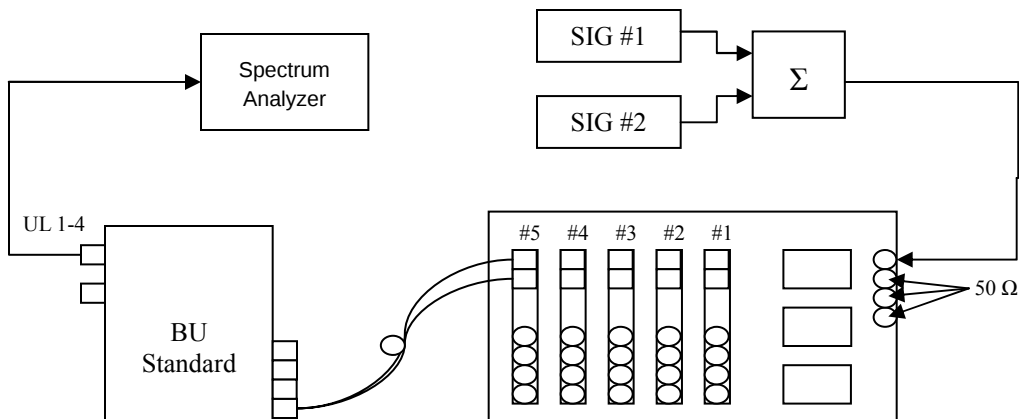

Figure 7.1 UL IIP3 Setup
- 7.2. Connect Spectrum Analyzer to the UL BU port, BU to the relevant RHU in the cabinet and Signal Generators to the relevant Cabinet Antenna port, as shown at Figure 7.1.